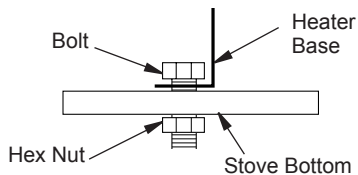

Figure 14 - Fastening Heater Base to Stove Drop Bottom
7. Fasten heater base to stove bottom with #10-24 x .50 bolts and hex nuts provided with gas log heater (see Figure 14). Attachment hardware is factory packed inside plastic bag with installation manual and owner's registration card. Push bolt through heater base mounting hole and through stove bottom. Connect hex nut to bolt on underside of stove bottom. The bolt hex head is for a 5/16" socket and the hex nuts are for a 3/8" socket. If sockets are not available, use adjustable wrenches.